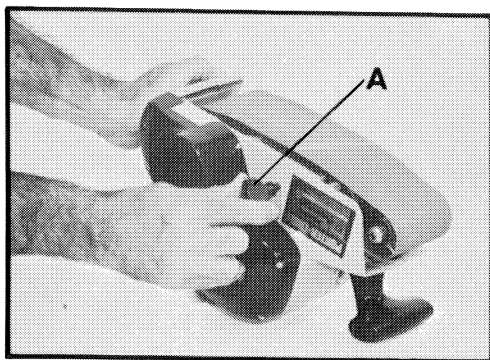

Fig. 4
2. Turn machine over, grasping rear handle with left hand so last two fingers rest on trigger switch (Fig. 4).
4. Turn the belt aligning screw (A) in either direction until edge of